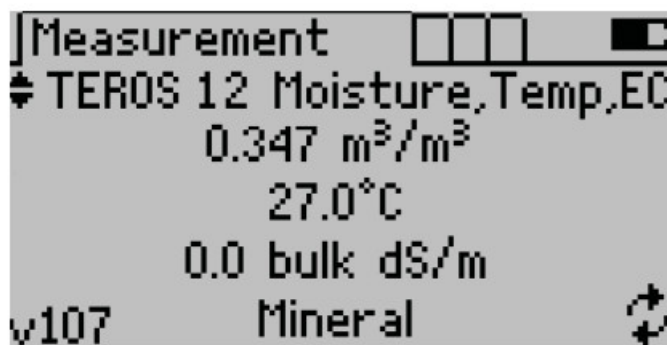

Figure 5 Measurement screen with live update mode activated
4. Press **ENTER** to engage the live update mode (**Figure 5**).